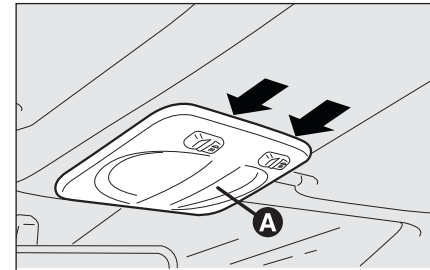
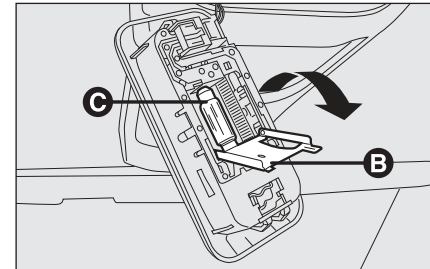

fig. 32
fig. 33
- replace bulb **F-fig. 33** by releasing it from the side contacts and making sure that the new bulb is correctly clamped between these contacts;
- manipulate the points shown by the arrows and remove light **A-fig. 32**;
- replace bulbs **C-fig. 33** by releasing them from the side contacts and making sure that new bulbs are correctly clamped between these contacts;
- close the lid **B-fig. 33** and secure light **A-fig. 32** into its housing making sure that it locks into place.